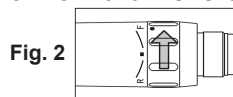

Fig. 2
1. Forward Rotation: Turn FWD/REV regulating sleeve to "F".(Fig 2)